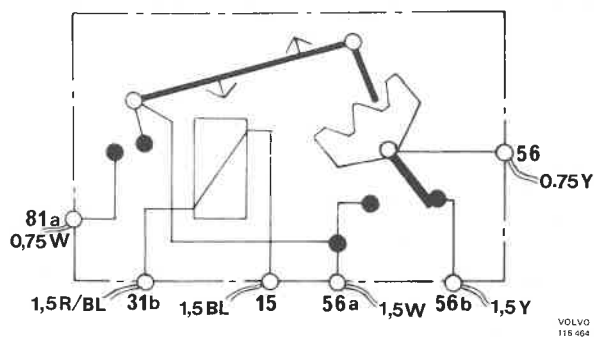

Fig. 36-30. Step relay internal wiring
1. Connect up the cables according to the marking, see Fig. 36-30.